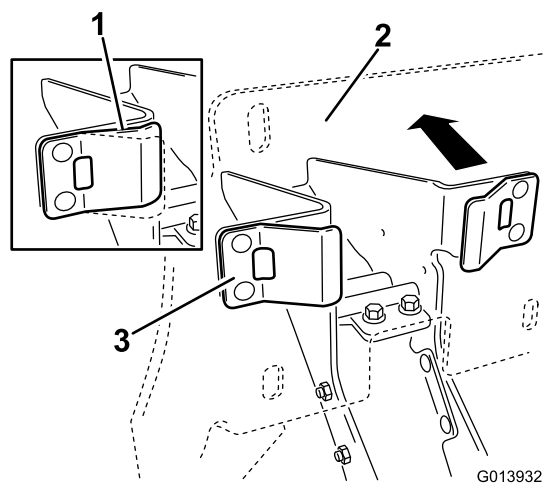

Figure 8
1. Making sure that the plastic stops are in contact with the spring tabs, apply enough pressure against the back plate assembly of the cradle to compress the spring tabs midway (Figure 8).